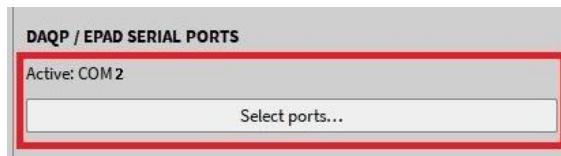

Figure 2-16: Selection of the proper COM port
- Select the proper Serial Port for your EPAD2-module by clicking on the *Select ports...* button (see Figure 2-16). Systems in Europe are typically assigned to COM2 and systems in the USA are typically assigned to COM3)